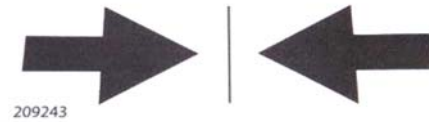

Figure 19
18) Remove only the center stickers on the C-channels (Figure 19).